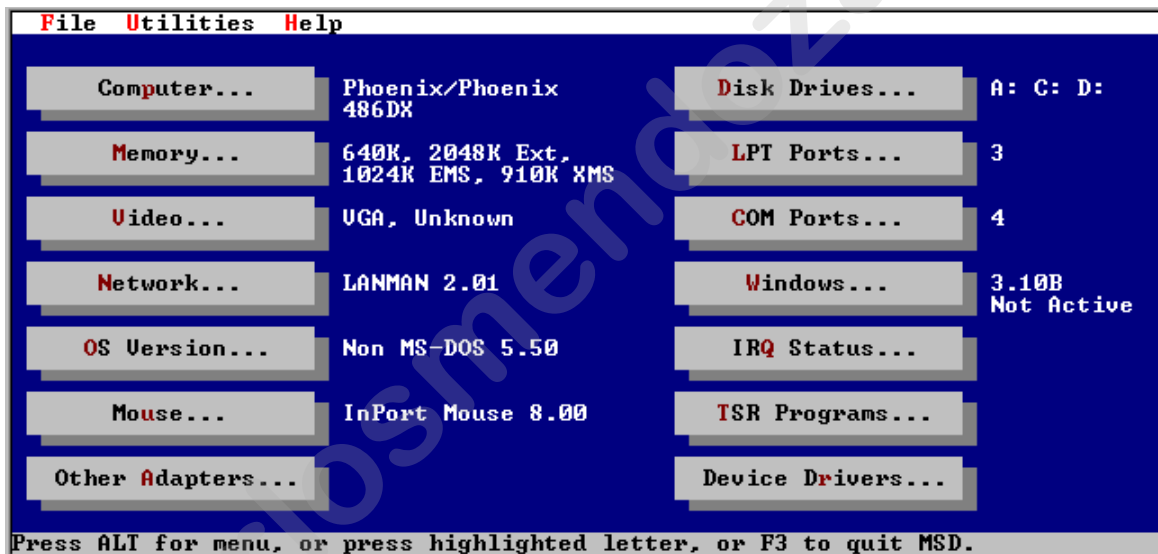

Figure A.3 MSD Application Screen
2. Type MSD at the DOS prompt. This starts the MSD application. Refer to Figure A.3.